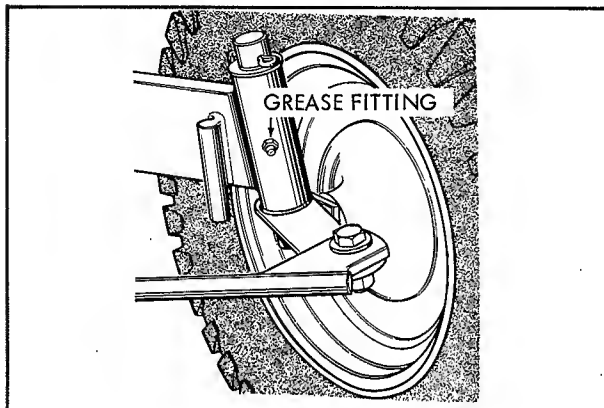

Fig. 4
- (2) Front Spindles - figure 4